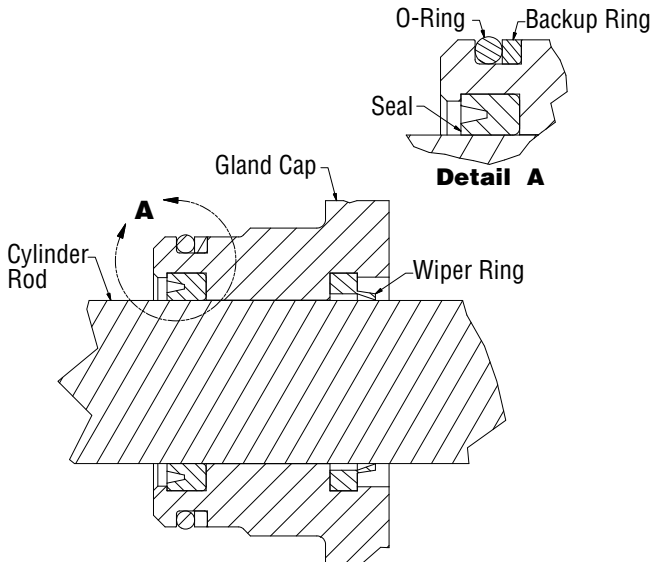

Figure 4-9, Gland Cap Seal
3. Install the seals and wipers in the gland cap. Note the direction of the seals. The cupped side or O-ring side of the seal should be facing the piston. (Figure 4-9)